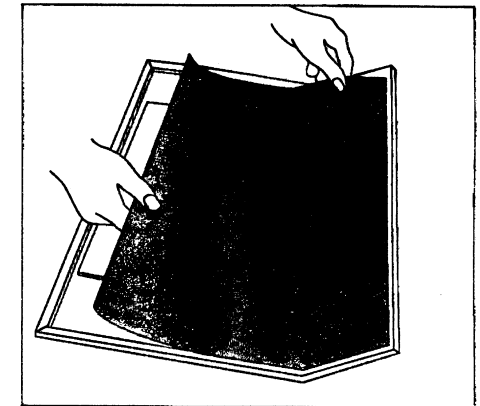

Fig. 11
3. Place new grease filter in the filter grille (Fig. 11).